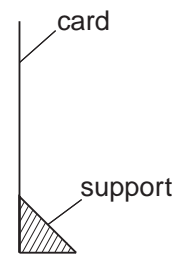

Fig. 4.3
- (iv) Screen (a white sheet of stiff card approximately 150 mm × 150 mm, fixed to a wooden support, is suitable. See Fig. 4.3.).